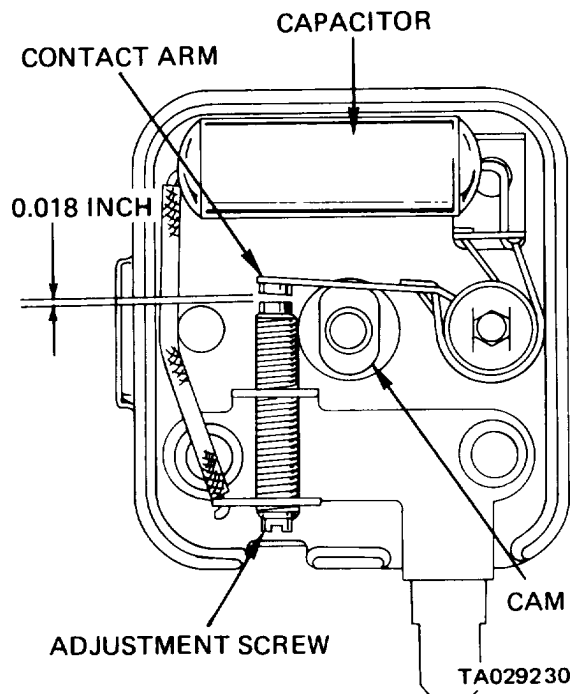

Figure 23-1. Breaker Point Adjustment.
- (1) Remove the cover from the ignition unit base.
- (2) Rotate the cam until it raises the breaker points' contact arm as far as it will go (figure 23-1).
- (3) Rotate the adjusting screw until a gap of 0.018 inch is obtained between the points.
(4) Rotate the cam 180° and recheck the gap. It must be between 0.012 inch and 0.021 inch. If it is not, set the gap at 0.018 inch at this position. Rotate the cam 180° and check the gap again. If it is now between 0.018 inch and 0.021 inch the gap is set. If it still is not within the proper range, replace the ignition unit (*b*, below).
(5) Reinstall the cover.